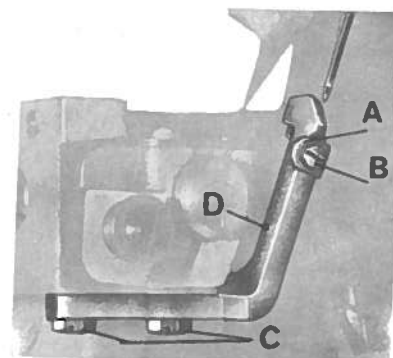

fig.10
6. Attaching needle guards (fig. 10).